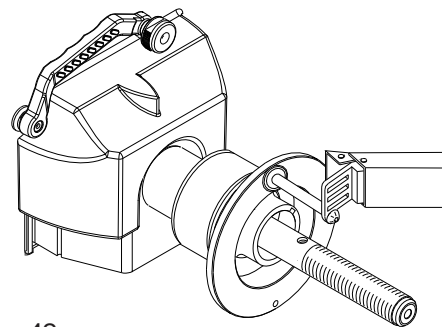

Figure 42a
3. The display will read “to FLA NGE”, Touch the tip of the width gauge to the backing collar and hold it for one second or press the “F” button (Figure 42a). The display will change to “bAC “H’ “POS” followed by a tone. Return the SAPE arm to the home position.